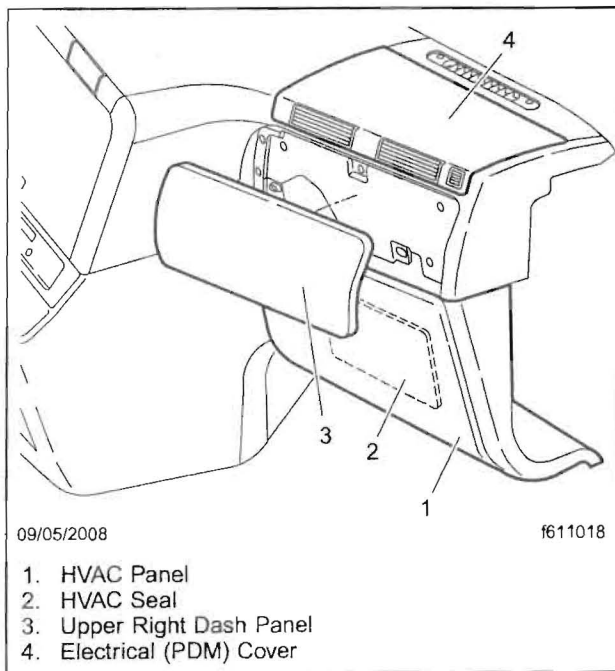

Fig. 1, Panels to Removed (left-hand drive vehicles)
5. *For left-hand drive vehicles:* Remove the right upper dash cover, the HVAC panel, and the HVAC seal. See Fig. 1. Go to step 7.